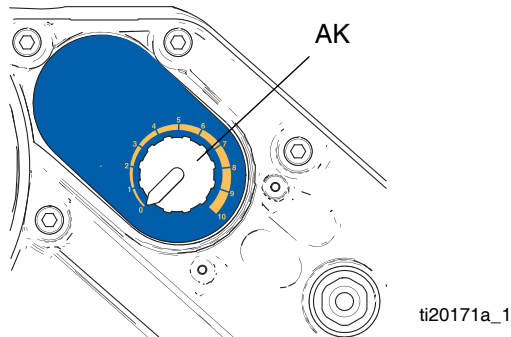

FIG. 12: Driver Pressure Adjustment Knob
Pull the driver pressure control knob (AK) out to set. Turn the knob clockwise to increase the pressure, or counter-clockwise to decrease the pressure. Push the knob to lock. See FIG. 12.